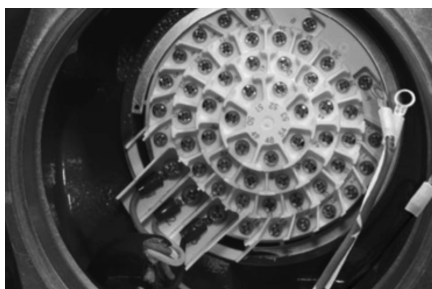

Figure 3.7 - Ring tongue connectors
5. Install ring tongue connectors as shown in **Figure 3.7**.